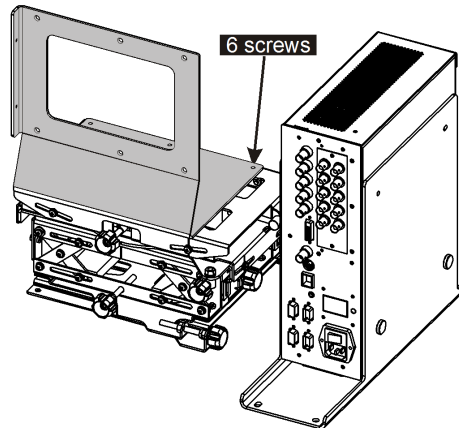

FIGURE 2-4 INSTALL CONFIGURATION BRACKET TO ADJUSTER BASE
5. Align the shorter end of the L-shaped bracket with the mounting holes in the adjuster base, as shown in Figure 2-4.
- Secure the bracket to the adjuster base with the (6) M4 screws used to secure the light engine.